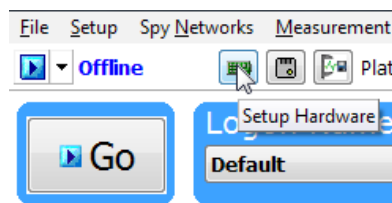

Figure 37: Starting neoVI Explorer from within Vehicle Spy.
- **Hardware Setup Button:** Click the  button located in the main Vehicle Spy toolbar just under its menu (Figure 37).